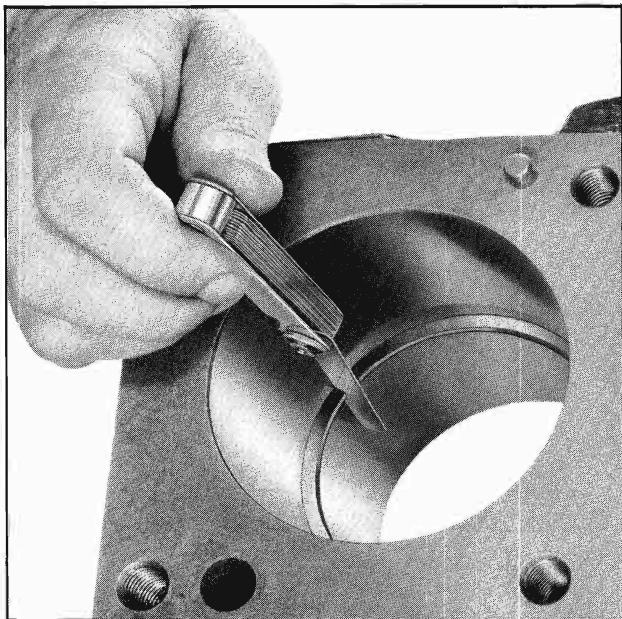

Fig. 6-72 Checking Ring Gap with Feeler Gauge
3. Measure gap between ends of ring with feeler gauge (Fig. 6-72). Gaps should be as follows: